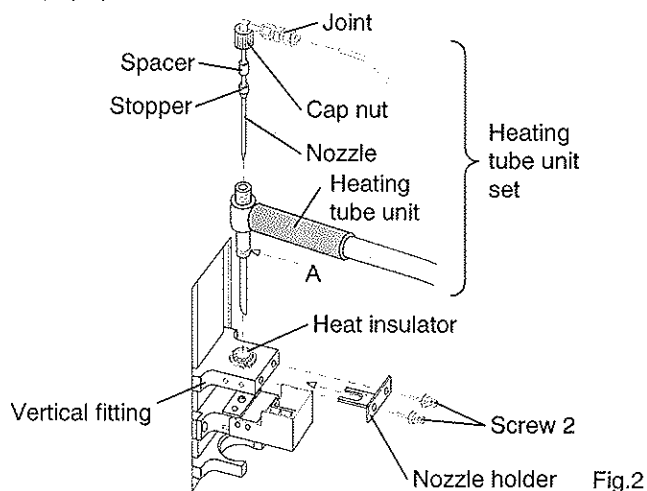

Fig.2
- 4) Put the heat insulator in the vertical fitting as shown below, and insert the heater tube (Fig.2).
- 5) Fasten nozzle holder with screws 2 (Fig. 2). Fix the nozzle holder with the groove of heater tube (A as shown) fitted in.
- 6) Make sure the cap nut of nozzle is securely fixed (Fig.2).